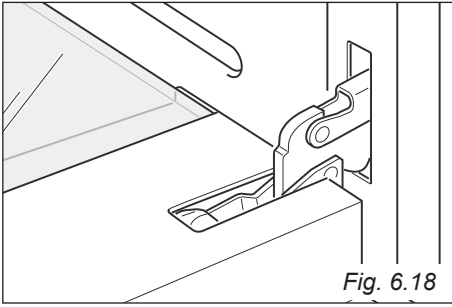

Fig. 6.18
- Open the door to the full extent (fig. 6.18).